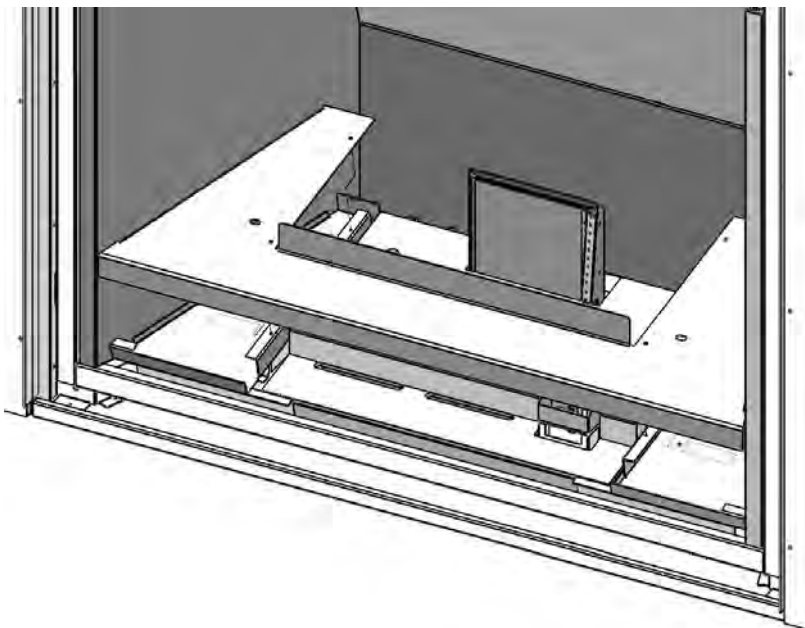

Figure 90: Installing The Log Burner Accent
16. Install the Log burner accent to the burner cover supports with four (4) T-20 Torx as shown in Figure 90.